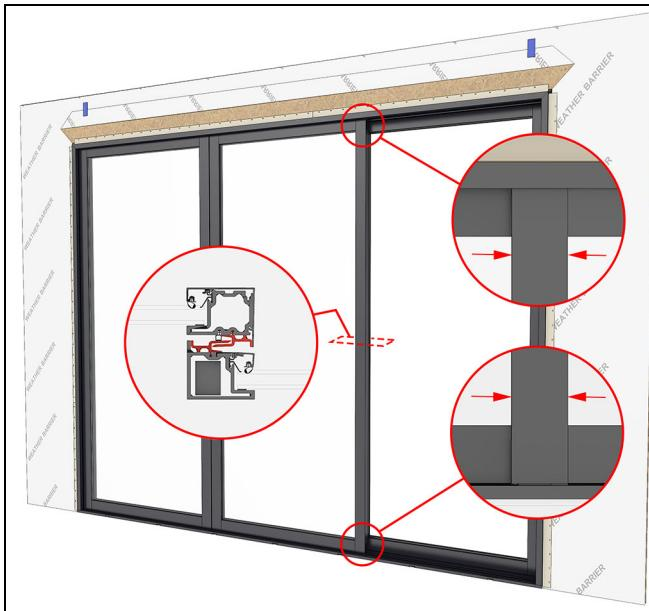

Figure 123
15. Check the operator panel for an even reveal. Adjust panel rollers as needed for proper lock engagement and reveal. See Figure 123.